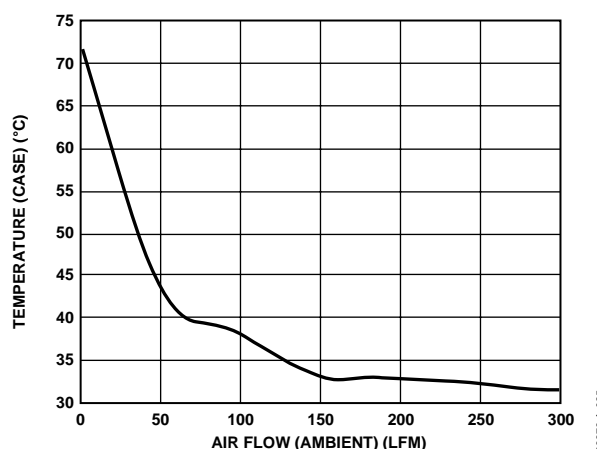

Figure 21. Temperature (Case) vs. Air Flow (Ambient)
- The unit rises to  $\sim 72^\circ\text{C}$  ( $T_C$ ) on the heat sink in still air (0 linear feet per minute (LFM)). The minimum recommended air flow is 100 linear feet per minute (LFM) in either direction across the heat sink (see Figure 21).